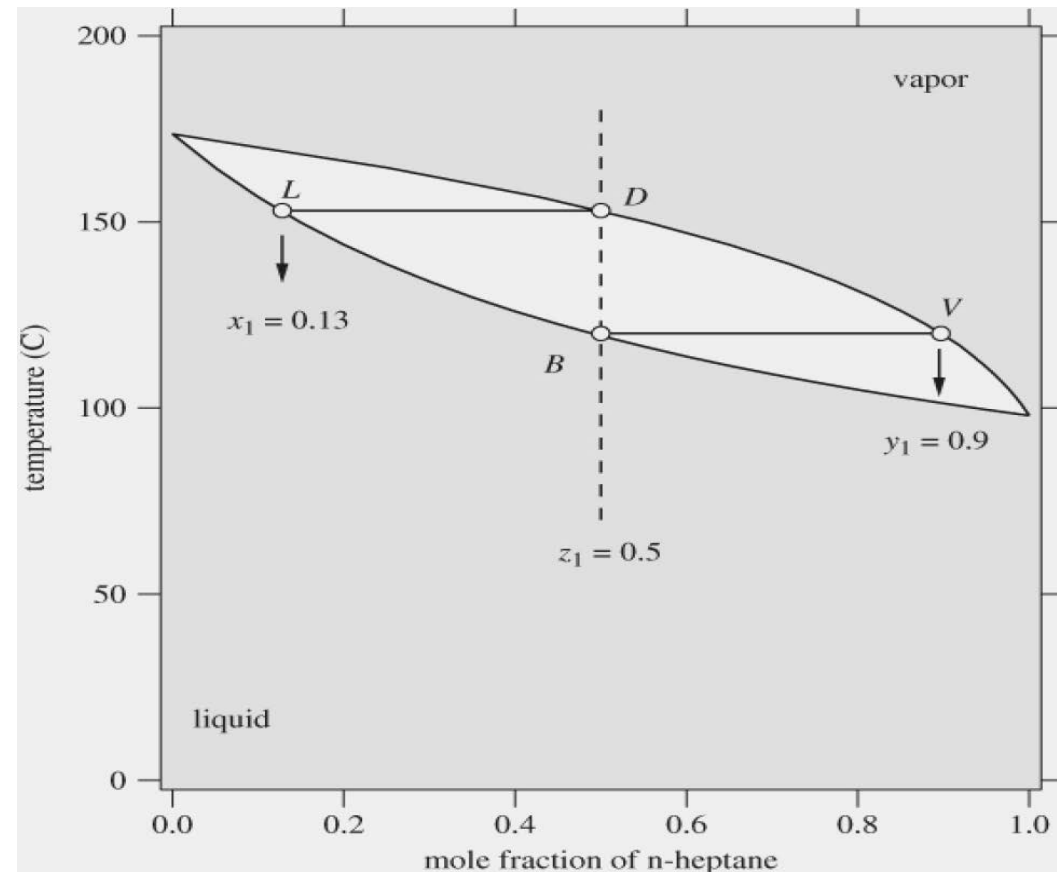

Figure 8-2: Compositions at the bubble and dew point.
**Solution** The maximum concentration in the vapor is when the system is at the bubble point, point *B* in Figure 8-2. Then the vapor has the concentration of point *V*. From the graph we read  $y_1 \approx 0.9$ . The composition of the liquid at this point is  $x_1 = 0.5$ , the same as the initial solution. The lever rule then gives  $L = 1$  and  $V = 0$ . Although the purity of the vapor is highest at that is point, the *amount* collected is zero.